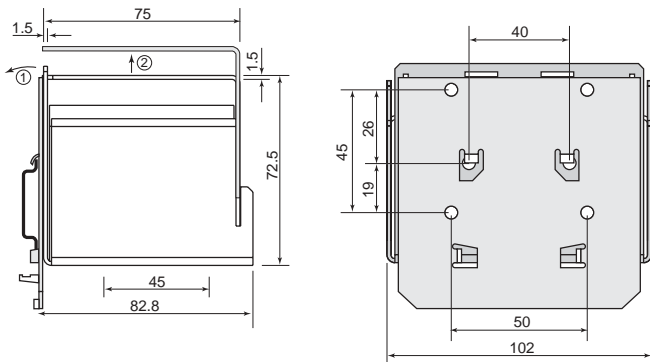

Fig. 3
**Note:** an optional battery module box frame is available, cod. Carel EVBATBOX00 (see Fig. 3).
**Battery removal/replacement (see Fig. 3):**